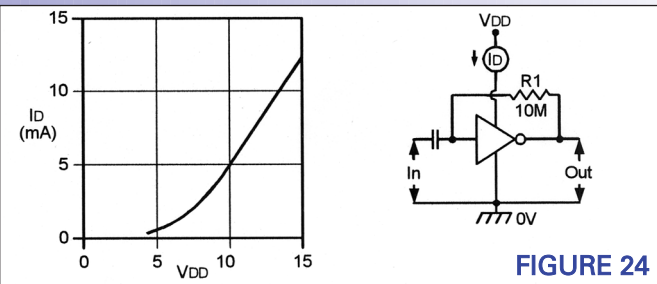

FIGURE 24
Figure 24 shows the typical drain-current/supply-voltage characteristics of the basic CMOS linear amplifier. Note that the supply current typically varies from 0.5 mA at five volts to 12.5 mA at 15 volts.
■ FIGURE 24: TYPICAL ID/VDD CHARACTERISTICS OF THE LINEAR-MODE CMOS AMPLIFIER.